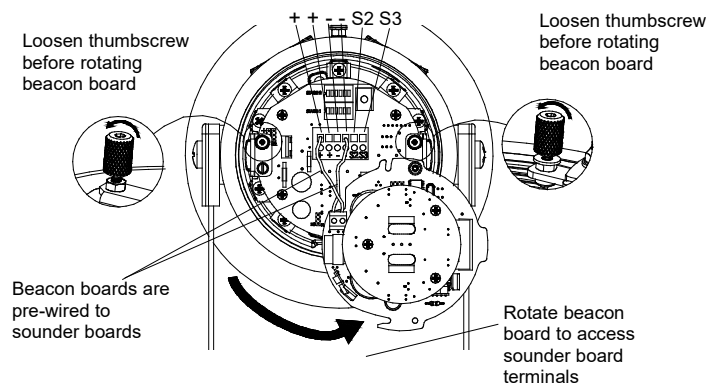

Fig. 8 DC Terminals
- Fit an M20x1.5 suitably rated cable gland or conduit entry into the hole in the enclosure and connect the field wiring to the appropriate alarm horn terminals as shown in fig. 6 (AC) or fig 8. (DC). The power supply terminals are duplicated so that units may be connected in parallel. An end of line monitoring resistor may be fitted to DC units only (see section 14). If the second and third M20x1.5 and or NPT entries are not used, suitably rated stopping plugs must always be fitted.
Stage one (S1) operation: Simply connect the supply voltage to the + and - supply terminals, (see fig. 8).